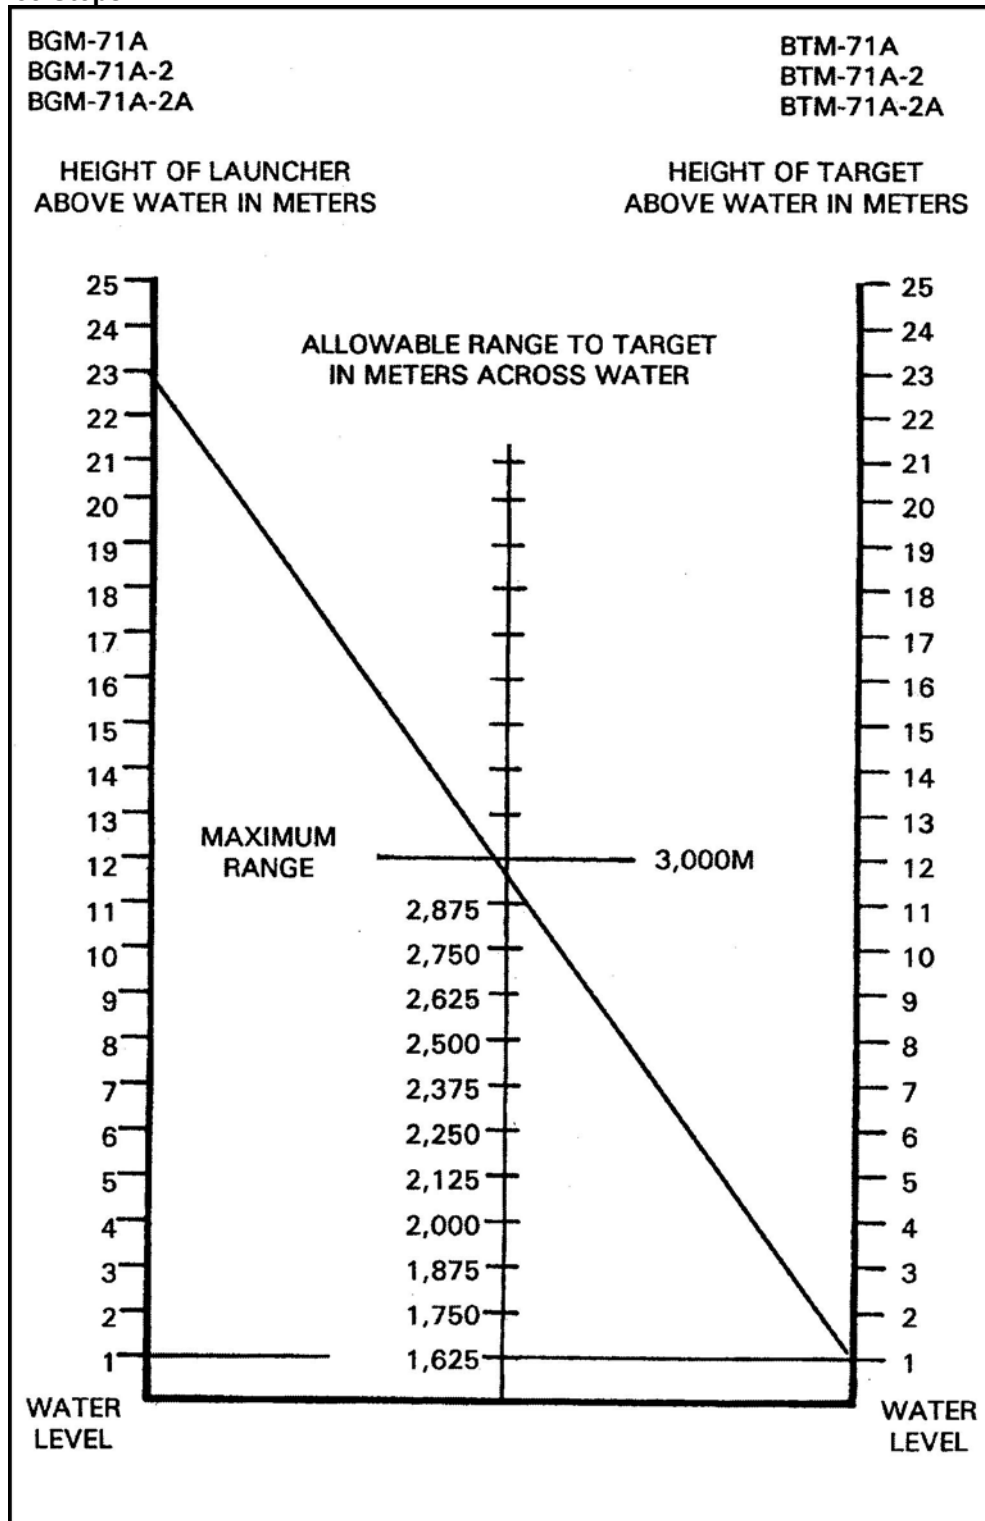
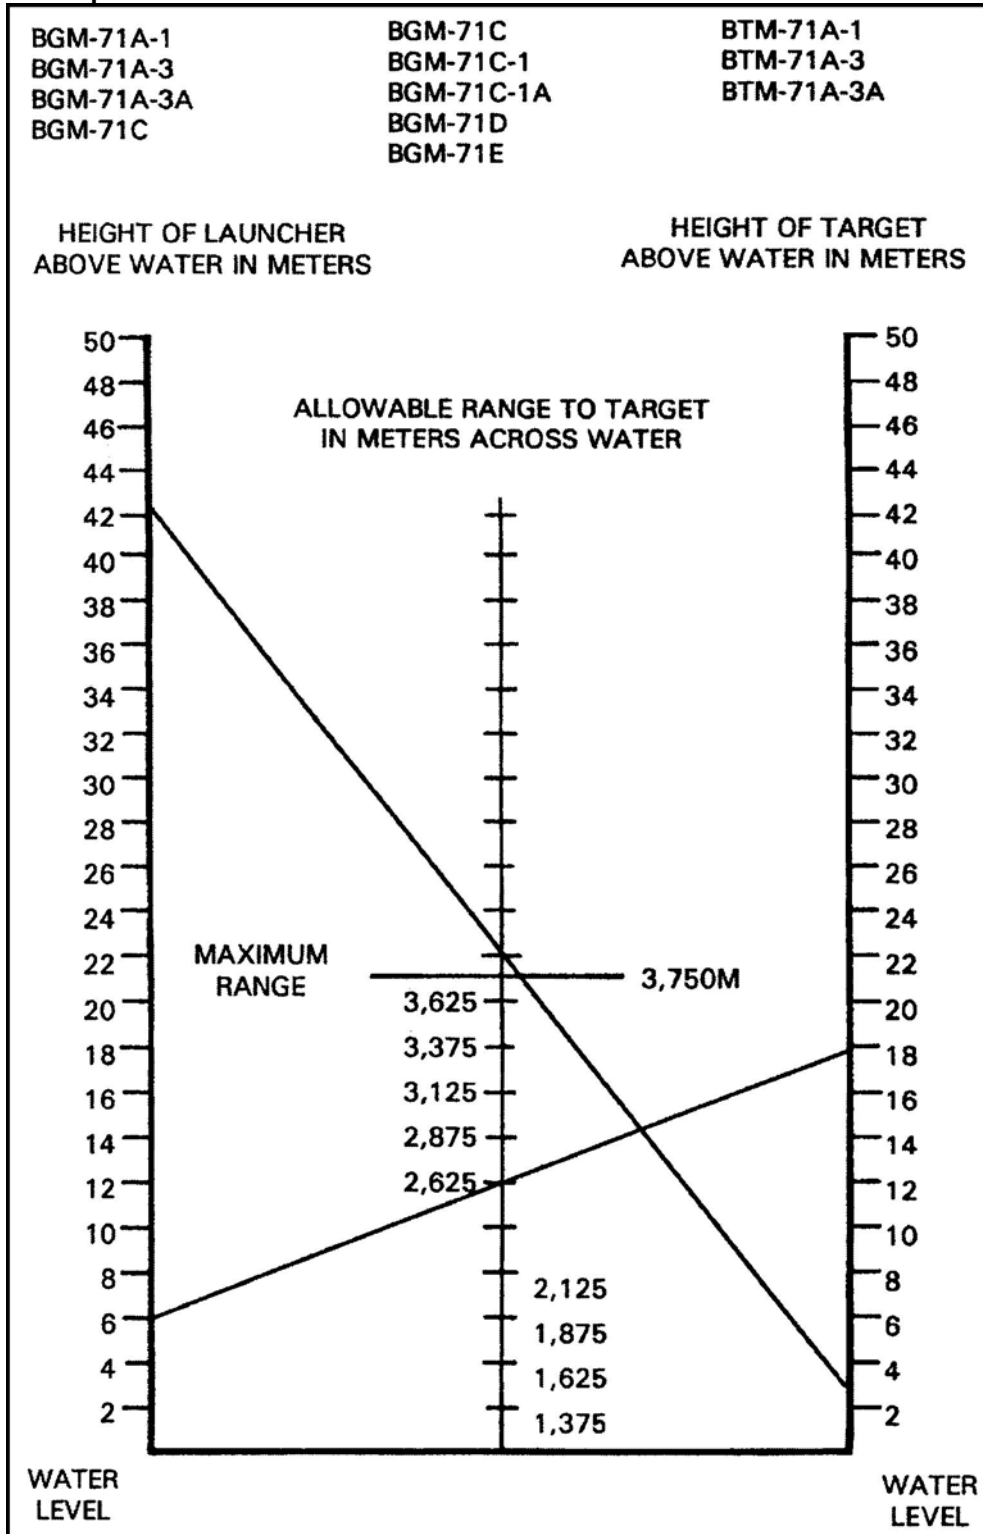

Figure 1A. Extended range chart, lake less than or equal to 1,100 meters wide, TOW 1.
Figure 1B. Extended range chart, lake less than or equal to 1,100 meters wide, TOW 2.
- (1) To determine how much water you can fire across, you need to know, in meters (a meter is about 3.3 feet)--
- (2) The type of TOW missile determines whether you use the chart shown in Figure 1A or in Figure 1B. Both charts work the same, so directions apply to both.
- (a) TOW 1--Use the chart in Figure 1A.
(b) TOW 2--Use the chart in Figure 1B.